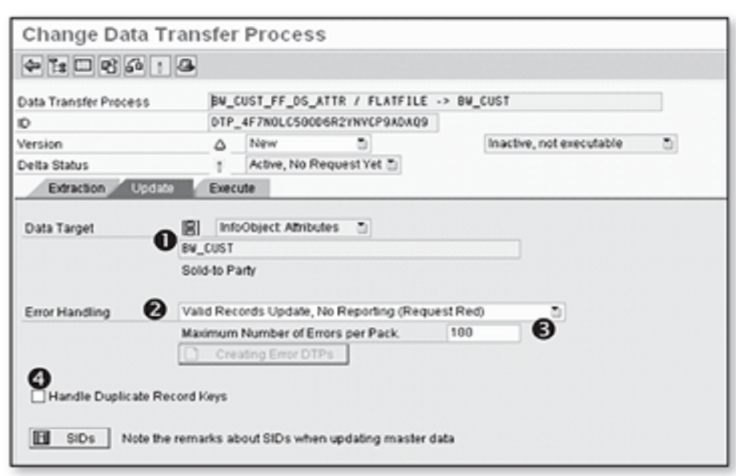

Figure 7.27 Change Data Transfer: Update Tab
Now click on the Update tab, where the BW_CUST data target is shown in 1 of Figure 7.27.
DTP offers various options for error handling, as shown in ❷ of Figure 7.27 and described here:
The number of erroneous records that can be tolerated is entered in the Maximum Number of Errors per Pack field, as shown in ❸ of Figure 7.27. The system terminates the DTP if the number of erroneous records exceeds the number entered here.
The other important setting on the Update tab is the Handle Duplicate Record Keys checkbox (❹ of Figure 7.27). When set, this indicates that duplicate records should be handled in the order in which they occur in the data package.